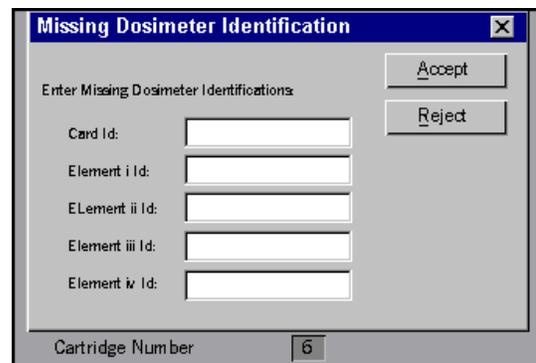

Figure 8.23 Missing Dosimeter ID Dialog Box
- 'Missing Id' indicates that a dosimeter had an unreadable barcode. When this occurs, the Reader displays a dialog box (Figure 8.23) for manual entry of a Dosimeter ID (and element IDs if you are reading Extremity Dosimeters). The Reader waits for a short period of time for a manual entry, after which it will place the card in the No. 8 Unload Cartridge and proceed to read the next card.